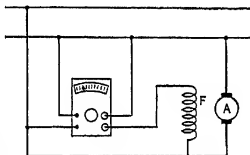

Fig. 258. What power does the wattmeter measure?
**Prob. 12-10.** Does the wattmeter of Fig. 258 measure the power taken by the motor? If not what does it read?
**Prob. 13-10.** Reconnect the wattmeter of Fig. 258 to read the total power delivered to the motor.